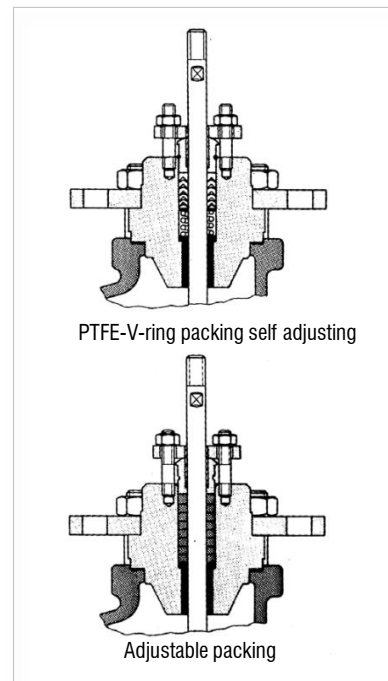

Figure 5: Packing
4. Install new packing (Figure 5) and associated parts in correct sequence and replace the packing flange and nuts. With PTFE spring loaded packing, tighten gland nuts until limited by travel stop, fitted to the packing. In case of PTFE or graphite packing, tighten just enough to prevent leakage.